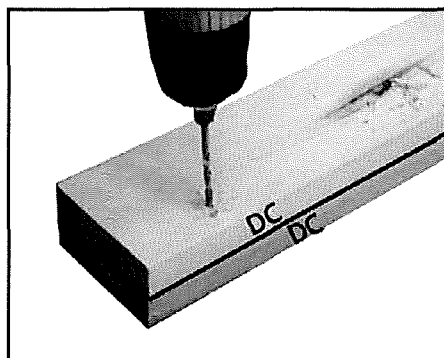

Fig 4
- 8 Place the other DC part underneath and drill through both pieces with a 3mm drill (fig 4)